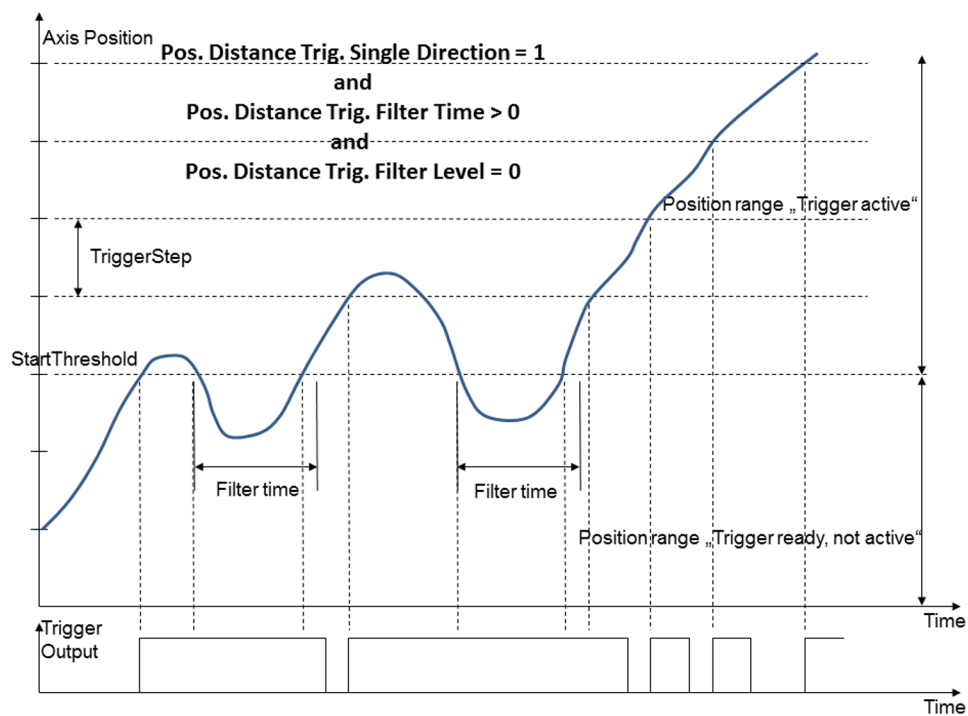

Figure 65: Position Distance trigger mode with threshold settings, with time filter
- The Pos. Distance Trig. Filter Time parameter (ID 0x18000301) specifies a time filter. The time filter is used to delay the trigger deactivation when the axis position falls below the start threshold due to noise (Figure 65). The time value is specified in seconds. Recommended minimum value: period of the noise signal. Default value: 0 (= filter deactivated)